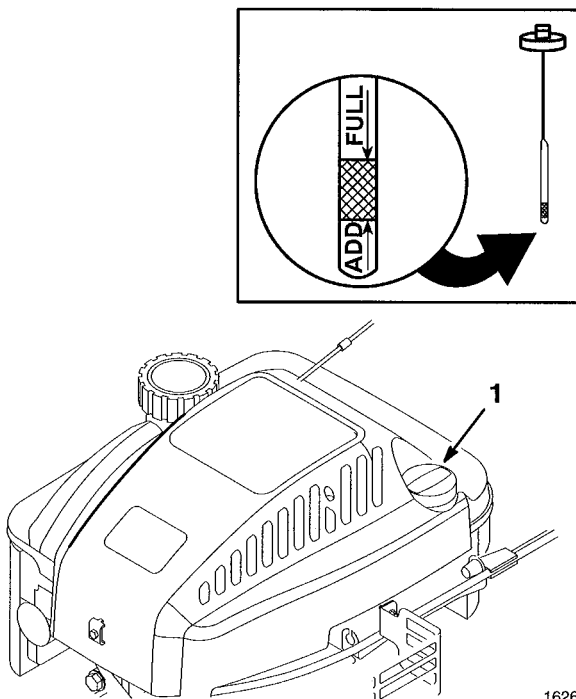

Figure 2
Before each use, ensure oil level is between FULL and ADD marks on dipstick (Fig. 2). Add oil if level is low.
1. Position mower on level surface and clean around oil dipstick (Fig. 2).
with FULL and ADD marks (Fig. 2). If level is low, add only enough oil to raise level to FULL mark on dipstick. **DO NOT FILL ABOVE FULL MARK BECAUSE ENGINE COULD BE DAMAGED WHEN STARTED. POUR OIL SLOWLY.**